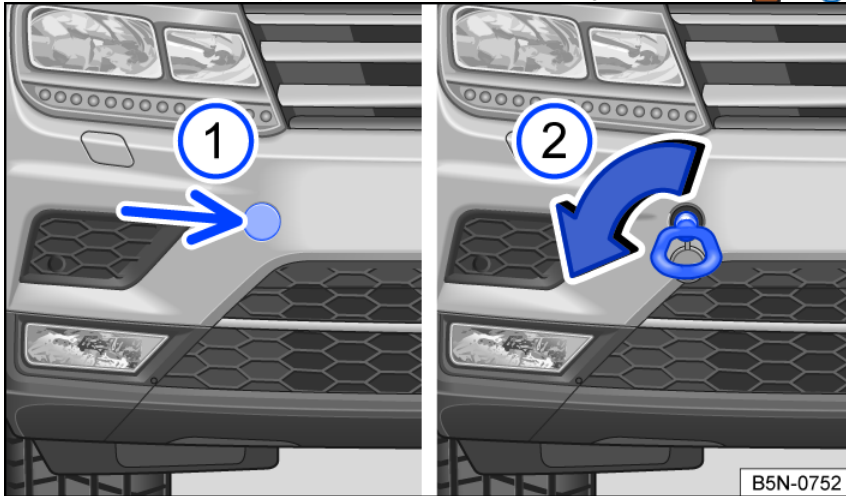

Fig. 192 In the right front bumper: towing eye.
- Press on the corresponding part of the cover (arrow) to release the lock on the cover *fig. 192* ⓘ.
- Rotate the towing eye **counterclockwise** and tighten as far as it will go to install it in the opening *fig. 192* ⓘ ⇒ ⓘ. Use a suitable object to tighten the towing eye completely and securely in the mount.